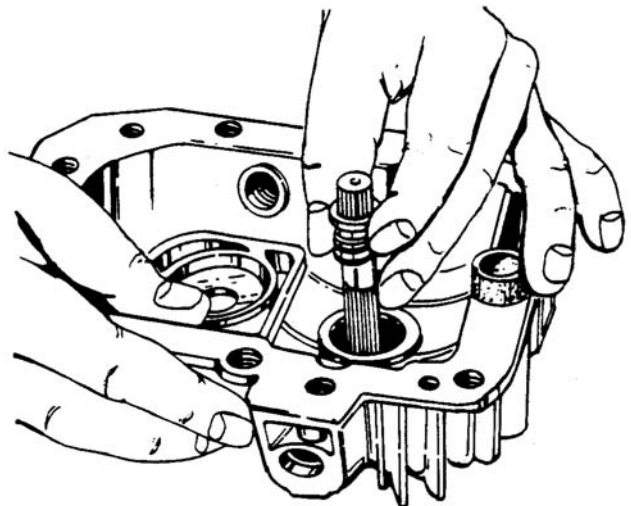

Figure 6-19. Removing Spring and Washer
- a. Remove the spring and washer. See Figure 6-19.